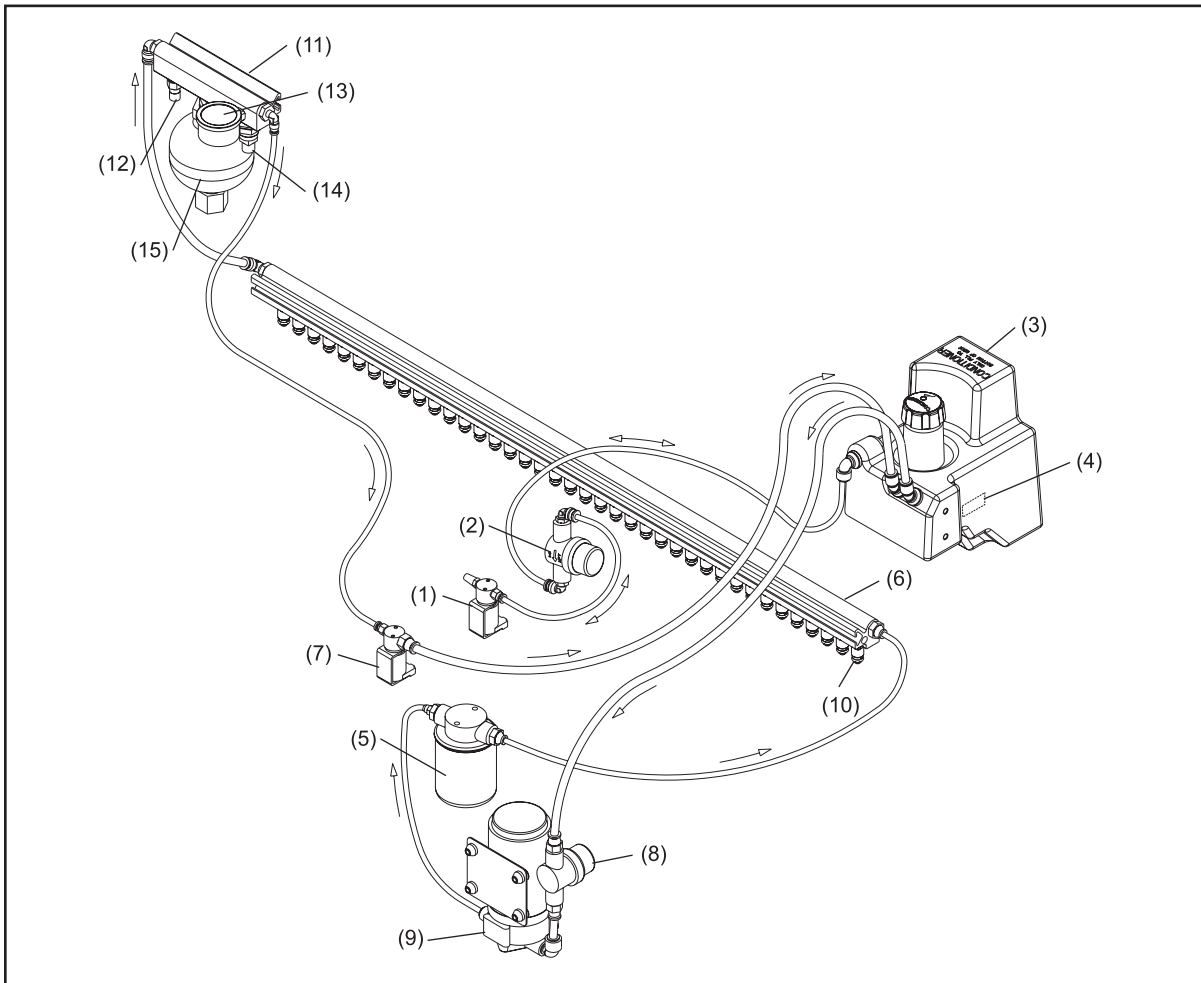

Figure 2-6. Conditioning System
1. 39 conditioner injectors mounted on a pressurized injector rail assembly apply conditioner to the lane surface according to the selected pattern. Refer to Figure 2-6.